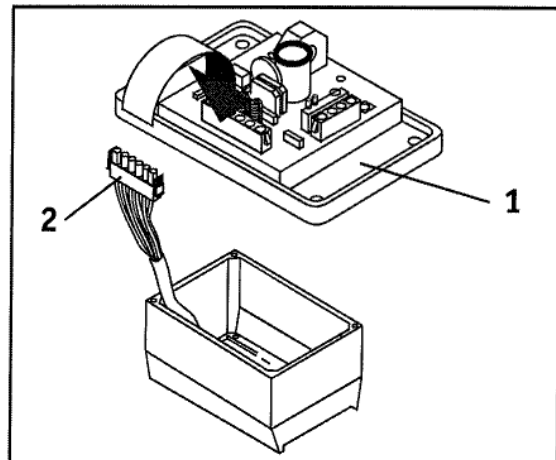

Figure 1
- Open the terminal box. Slightly lift the generator governor (Figure 1/1) off the terminal box and turn it over carefully as shown in Figure 1.
- Disconnect the connector (Figure 1/2) from the generator governor.